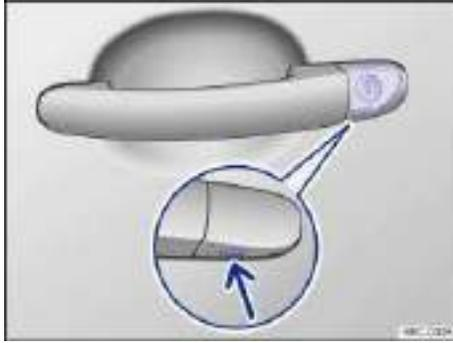

Fig. 164 Door handle on driver door: Concealed lock cylinder.
- If the lock cylinder has a cover cap, insert the key bit from below into the opening of the cover cap on the driver door ⇒ fig. 164 (arrow) and lift the cover cap off. Grasping the door handle and pulling slightly makes it easier to remove the cap.